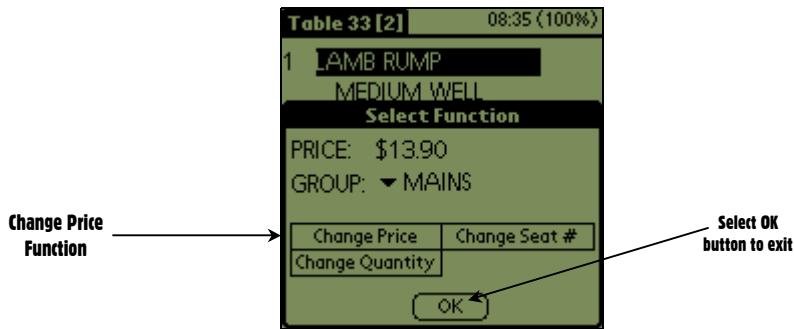

Fig 2.19(a) Product functions screen.
3. This will open the **New Price** pad (shown **Fig 2.19(b)**) which allows either a new dollar amount, a dollar discount or a percentage discount to be entered.